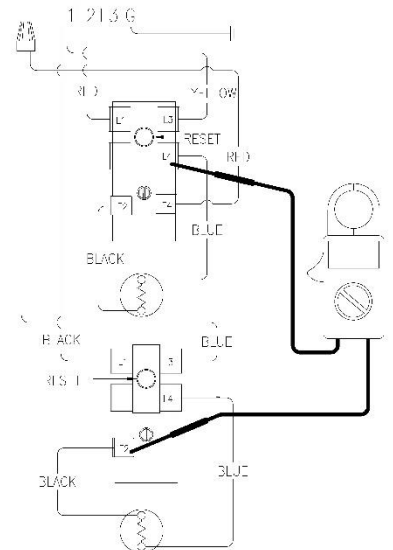

Figure 23
5. Check across terminal L4 & T2 of upper thermostat (see Figure 23).